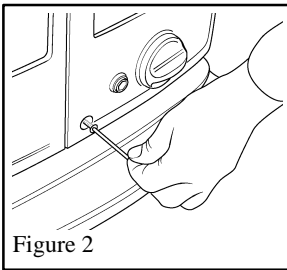

Figure 2
1. The windows are secured with a locking screw. Remove the screw with the Allen key supplied. See figure 2. Open the windows.